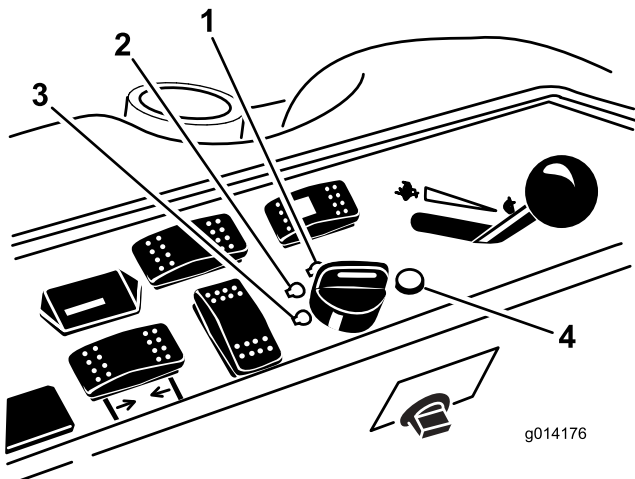

**Figure 9**
4. Move the PTO (power take off) switch to the off position (Figure 9).
5. Move the throttle lever midway between the Fast and Slow positions (Figure 9).